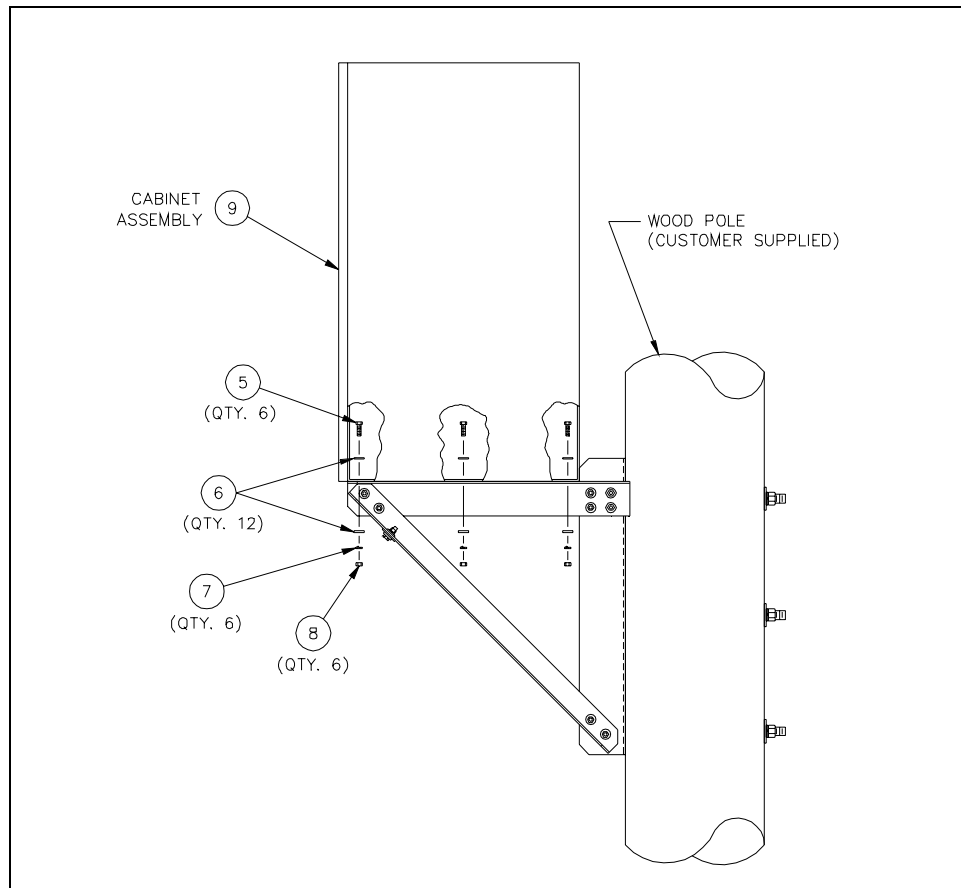

Figure 3.
5. Attach the cabinet assembly (Item 9) to the bracket assembly using screws, washers, nuts (Items 5–8) as shown in Figure 3.